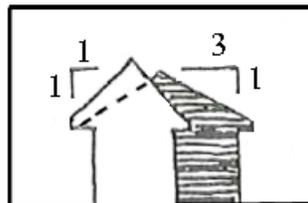

Figure 5
2. The average slope shall be greater than or equal to 1 foot of vertical rise for every three (3) feet of horizontal run. See Figure 5.
3. The average slope shall be less than or equal to 1 foot of vertical rise for every one (1) foot of horizontal run. See Figure 5.